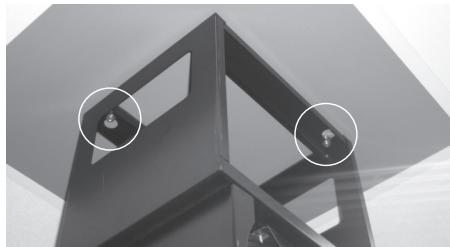

Fig. 1
3. Fit the pegs and first of all screw two screws into the pegs (do not tighten completely). Hook the motor unit behind the two screws which are already in place (fig. 1). Centre the motor unit in relation to the hob. Ensure that the motor unit is aligned in relation to the hob as it hangs from the ceiling.